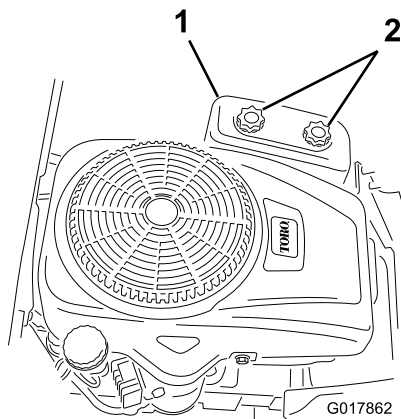

Figure 18
3. Remove the air-cleaner cover by unscrewing the 2 knobs (Figure 18).
4. Install the air-cleaner cover, and tighten the 2 knobs (Figure 18).